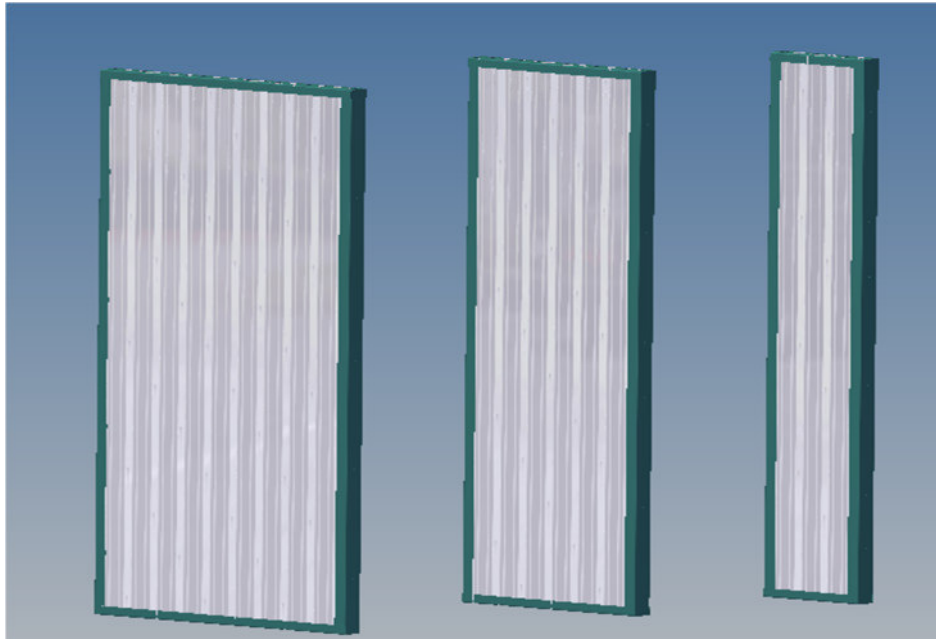

Fig. 1 Modular elements 2400 mm , 1650 mm , 900 mm
- 3.2.3 Assembling part by part of the different wall components (Fig. 1) on the project-specific position plan, fixation at the ground plate by the provided anchor bolts and connect among them by screwing.